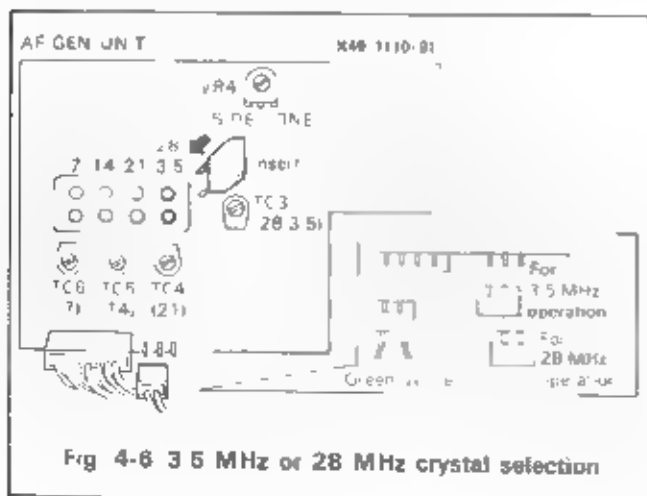

Fig. 4-6 3.5 MHz or 28 MHz crystal selection
4.5 FIXED CHANNEL OPERATION (Fig. 4-6)
The TS-120S(V) accepts a maximum of four crystals, one each for the 7, 14, 21 and 28 MHz bands (the 28 MHz band includes 28.0, 28.5, 29.0 and 29.5 MHz, so it is possible to operate in 28.1, 28.6, 29.1 or 29.6 MHz with a 28.6 MHz crystal). For operation in the 3.5 MHz band, change the position of the connector from the 28 MHz to the 3.5 MHz position as shown in Fig. 4-6.